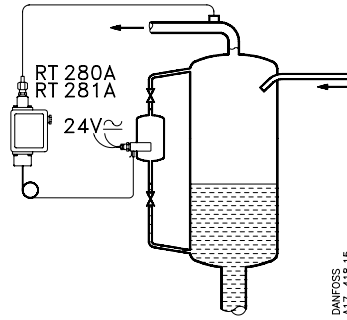
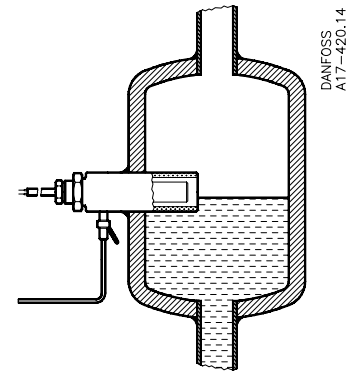

Fig. 2
Fig. 3
See figs. 2, 3, and 4.
The weld bushing should be mounted vertically so that the lower edge of the bulb is at the same heights as the max. permissible liquid level (fig. 2) or, when used as a liquid level control, at the same height as the liquid level required (fig. 3).
a. Safety cut-out (fig. 2):
b. Liquid level control (fig. 3):
Se fig. 2, 3 og 4.
væskniveau (fig. 2) eller ved anvendelse som niveauregulator i højde med det ønskede væskniveau (fig. 3)